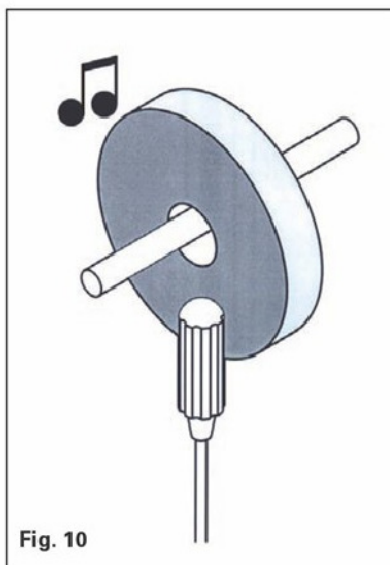

Fig. 10
- 1) Select the correct wheel for your work. Inspect it carefully for cracks and other damage. "Ring" the wheel, see **fig. 10**. This means hanging the wheel free and gently tapping it with, for instance, the handle of a screw driver. The sound should be clear, sonorous. If it sounds dull, don't even think of using that wheel because there are most certainly hidden imperfections in the wheel that can make it fly apart when used! Do not bump or drop the wheel, it is more fragile than you might expect.